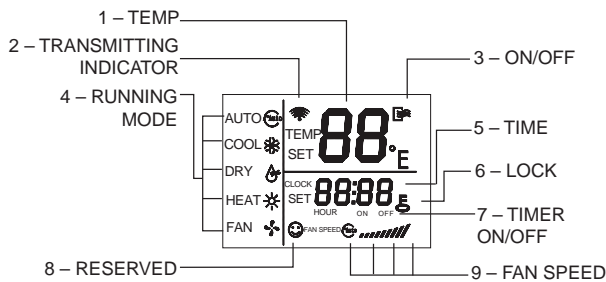

Fig. 2 — Wireless Controller Status Indicators
Wireless Controller Indicators — The wireless controller displays the following status indicators. See Fig. 2 for location of indicators.
- If no receiving sound is heard from the indoor unit, or the transmitting indicator light (see Fig. 2) on the controller does not flash, replace the batteries.